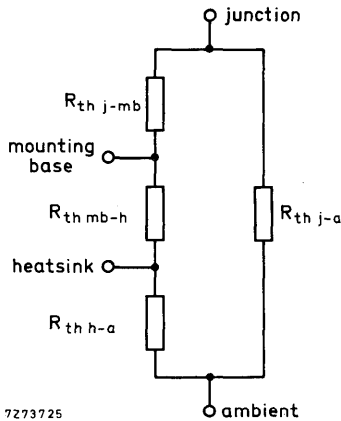

Fig. 4.
- The various components of junction temperature rise above ambient are illustrated in Fig. 4.